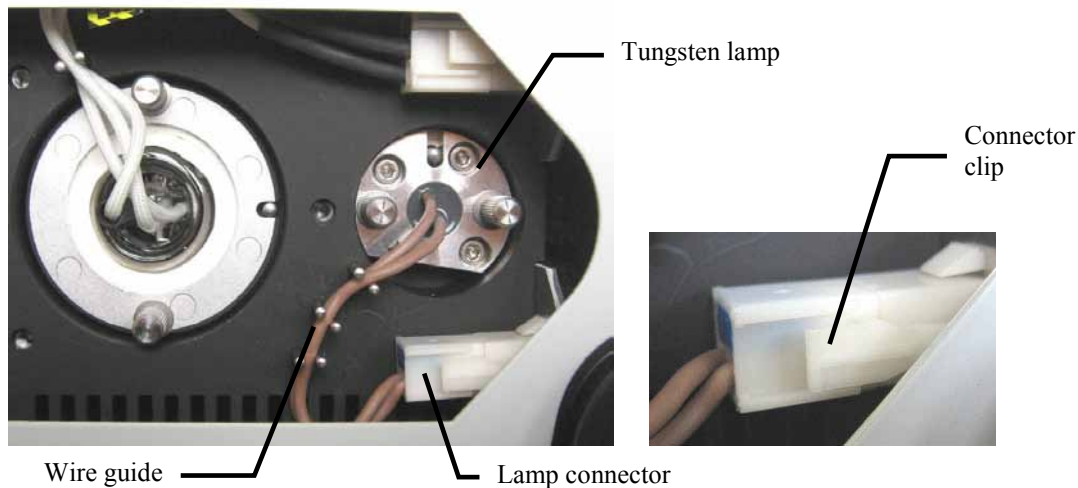

Fig. 35: Tungsten lamp connector
7. Reconnect the lamp connector (→ Fig. 35).
8. Route the lamp wire through the wire guide (→ Fig. 35).